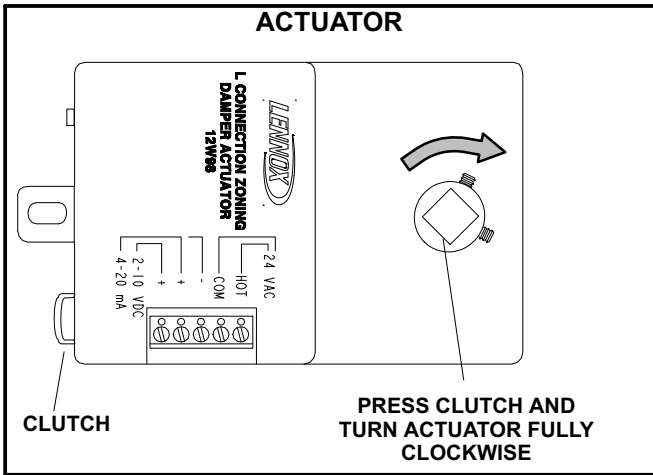

FIGURE 11
- 4- Press the clutch and rotate the actuator shaft to the fully clockwise position. See figure 11.